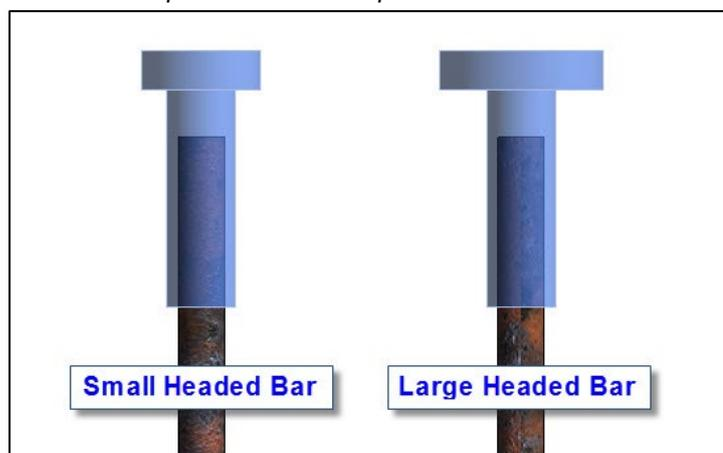

Figure 4.0
3. From the “**Properties**” dialog box, scroll the vertical bar up or down to pick the product that matches the desired bar size and pick to the bar end. (See Figure 4.0)